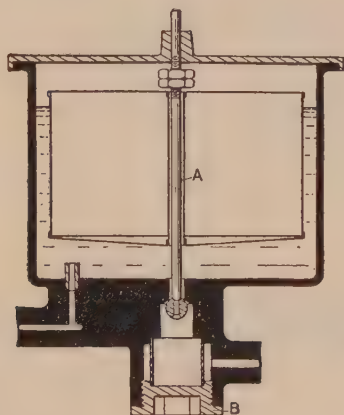

Fig. 28.—Simple form of float feed, with float concentric to inlet valve. There is a strainer at the inlet, accessible for cleaning by removing the plug.
**Ans.** A simple construction is shown in fig. 28. The float is constructed concentric with the inlet valve A, that is, it is placed around the same center. In the bottom of the float chamber is a small tube through which the gasoline must flow to the spray nozzle. The object of this tube is to prevent small particles of dirt and bubbles of water that may be in the gasoline entering the spray nozzle. The plug B at the bottom of the float chamber, has a wire screen to catch any foreign matter that may be in the gasoline, in order that it may not lodge in the spray nozzle and impede the flow of the liquid.